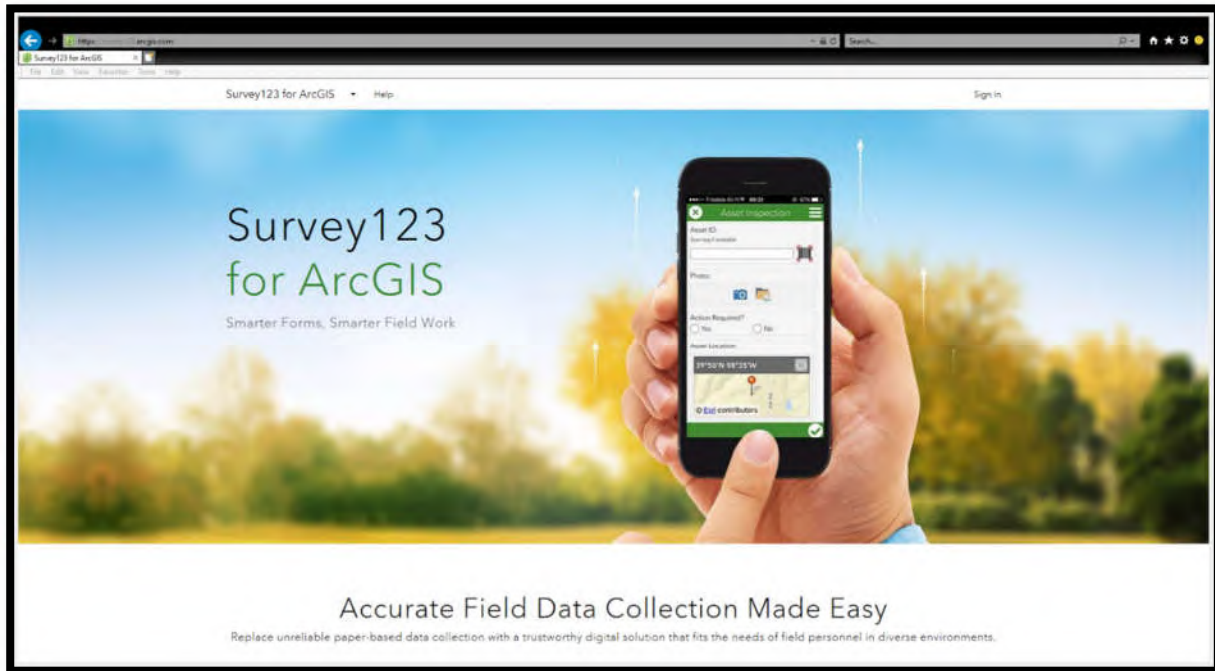

Figure 32- Survey123 for ArcGIS Welcome Screen
1. Click on Sign In in the upper right corner of the Welcome Screen (Figure 32).